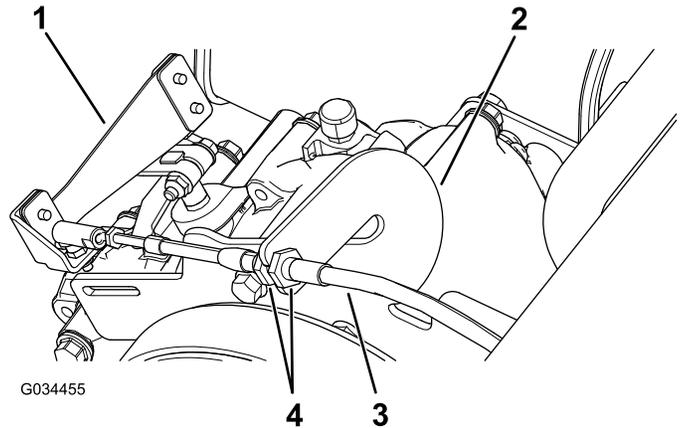

Figure 57
1. Loosen the jam nuts on the gear-shift cable and adjust them as necessary (Figure 57).
2. Test the gear-shift position by rotating the gear-shift selector to the 3 different positions and check to see if the shift lever (Figure 57) shifts properly when shifting the gears; refer to Gear-Shift Lever and Gear-Shift Indicator (page 11).